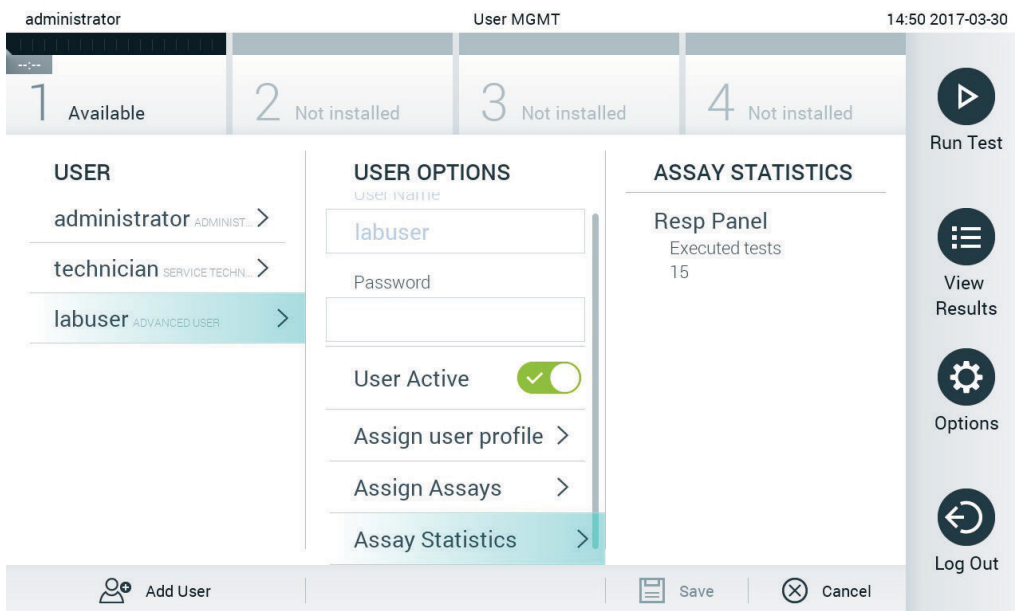

Figure 55. Viewing assay statistics.
- **Assay Statistics:** Shows the number of times an assay was run by the selected user (Figure 55).